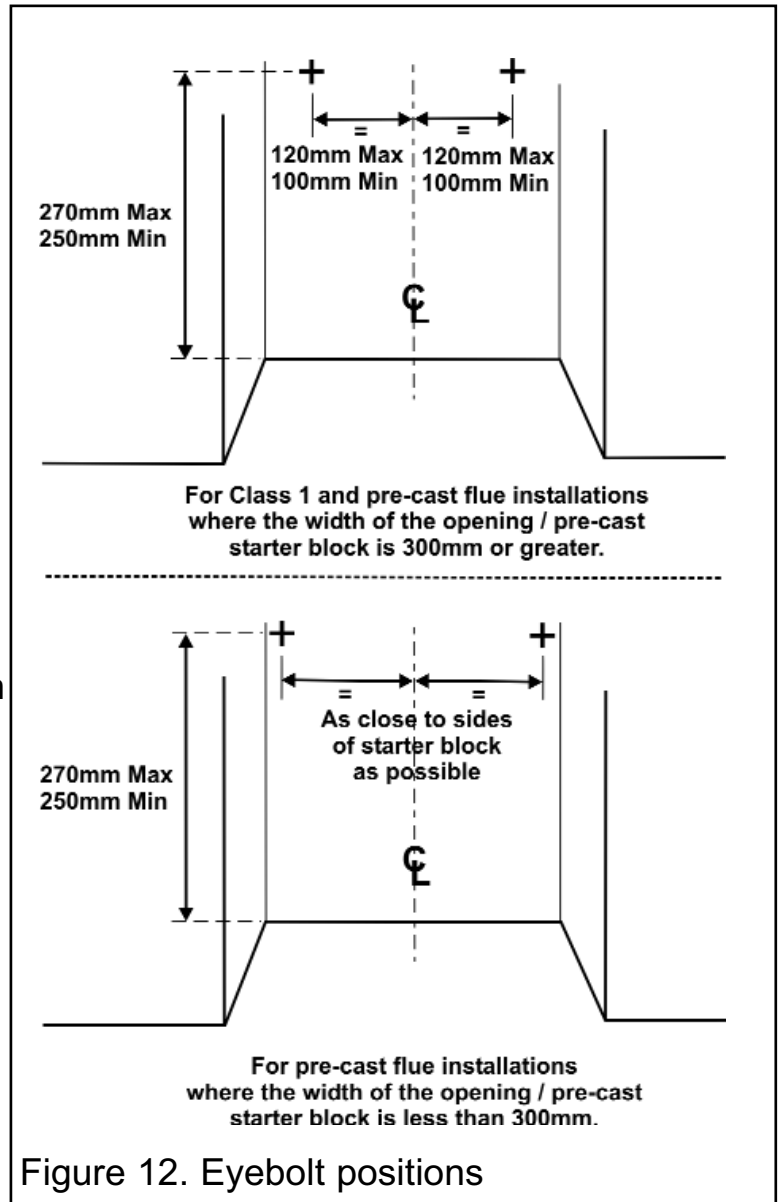

Figure 12. Eyebolt positions
2. Drill two holes in the rear wall of the fireplace for the eyebolt plugs. The holes should be drilled within the range of positions shown in figure 12 using a suitably sized masonry drill bit for the fibre / wooden plugs supplied. The holes should be equidistant each side of the centre line of the fireplace to ensure that the appliance finishes centrally in the opening when tension is applied to the cables.